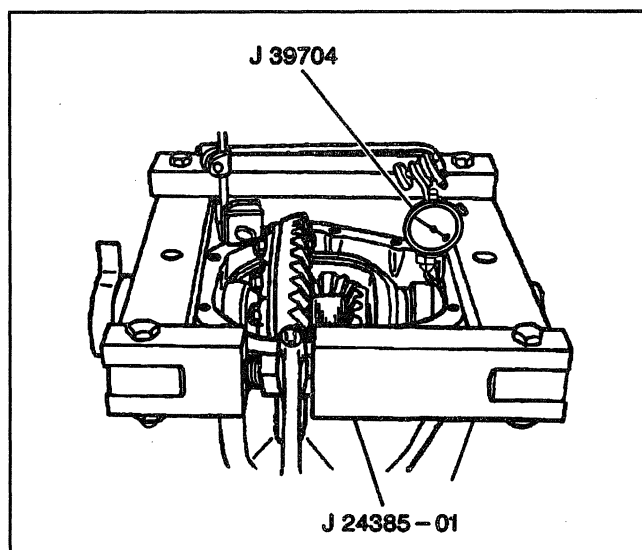

Figure 3—Spreading the Differential Case
3. Bearing cap bolts (19).
4. Bearing caps (18).
- B. Assemble J 24385-01 to the differential housing as shown in (Figure 3).